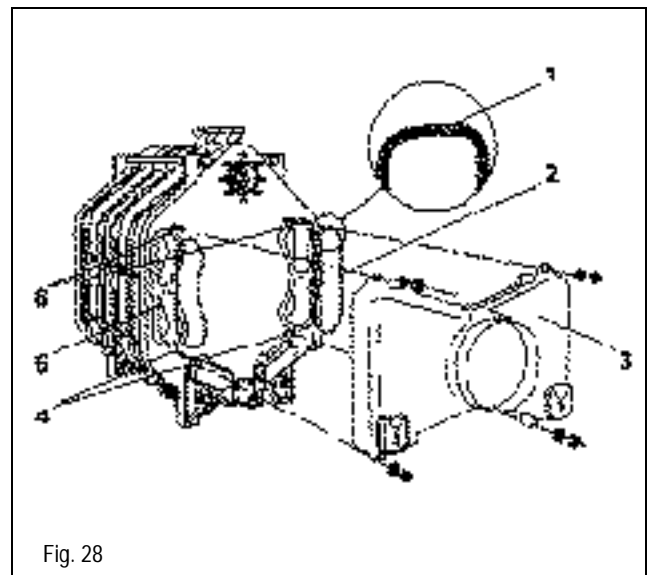

Fig. 28
- Glue the GP gasket (1,2) (5 ft length) into the flue grooves (5) at the rear section using the “Silastik” labeled tube. (Fig. 28).
- Place the flue collector (3) on the four studs (4,6) located at the rear section and tighten evenly with washers and nuts (Fig. 28).